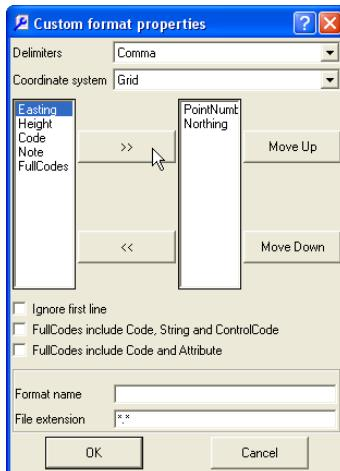

Figure 3-7. Add Elements to Custom File Type
- Select the elements to include in the format from the left column and click the move right button (>>) to add it to the right column (Figure 3-7). Use the move left button (<<) to remove elements from the format.